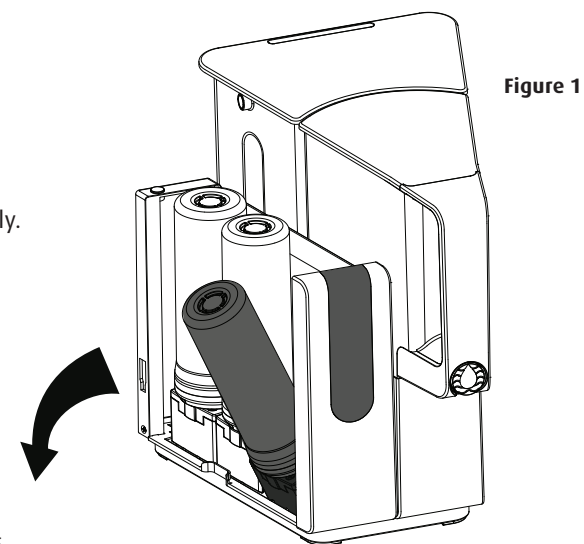

Figure 1
- 2 Remove old filter by turning it counter clockwise (Figure 1).